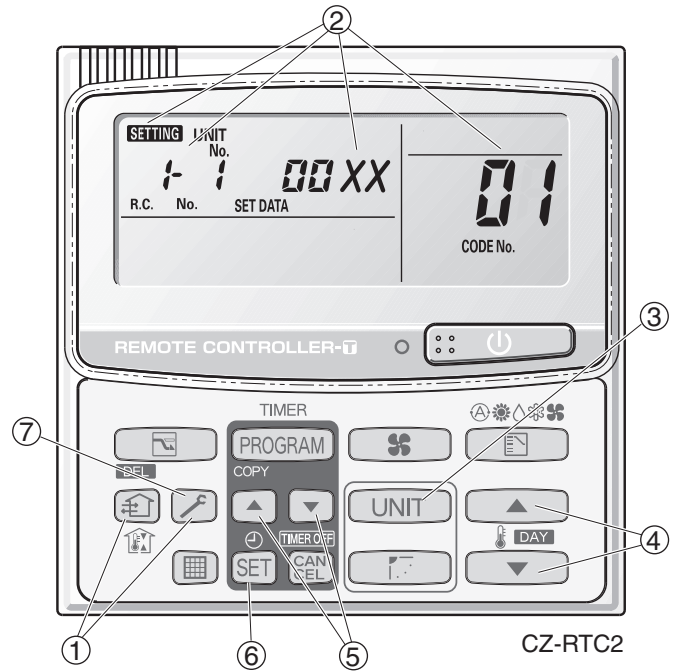

Fig. 2-1
- "**SETTING**," unit No. "**1-1**" (or "**ALL**" in the case of group control), item code "**01**," and settings data "**00XX**" are displayed blinking on the remote controller LCD display (Fig. 2-1). At this time, the indoor unit fan (or all indoor unit fans in the case of group control) begins operating.